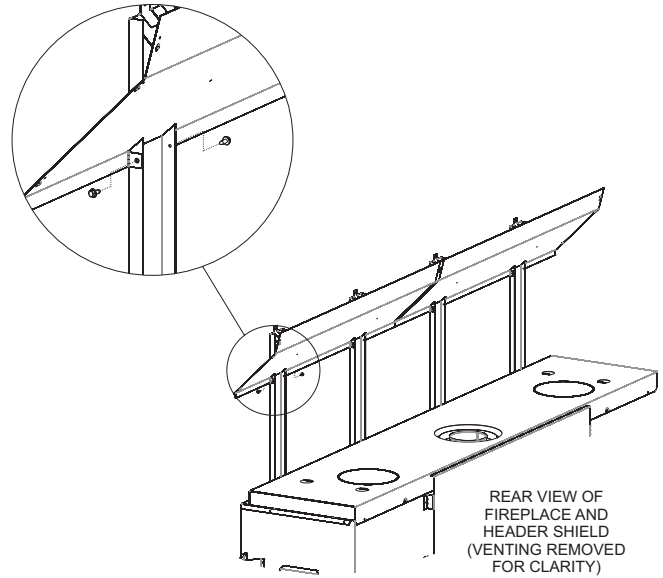

**Figure 25**
1. The two Header Shield halves and (4) Top Standoffs are packaged together and shipped with the fireplace. Pre-assemble each of the Header Shield halves to two of the Top Standoff brackets, before installing to the top of the fireplace and framing header. **See Figure 25.**